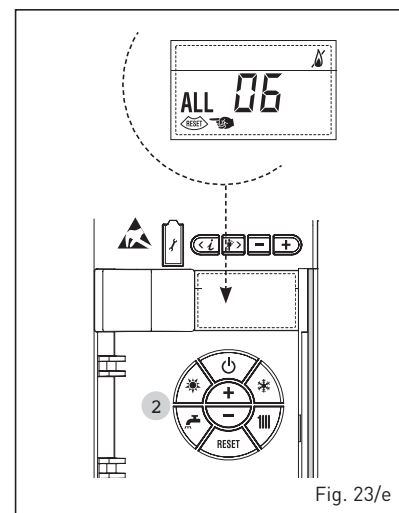

Fig. 23/e
– **SAFETY/LIMIT THERMOSTAT ERROR ALARM 07 (fig. 23/f)**